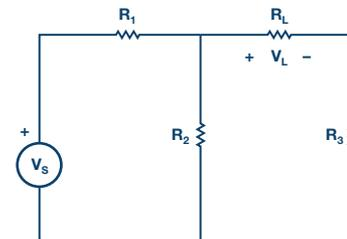

Figure 3. Maximum power transfer.
- ▶ 2. Calculate the maximum power transmitted to the load R_L obtained for the circuit of Figure 3.